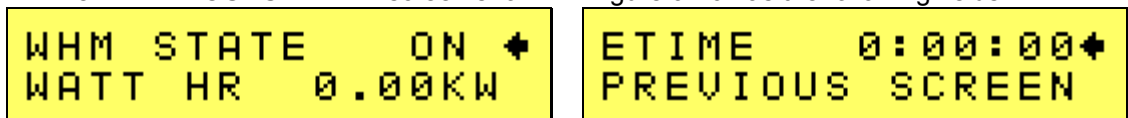

Figure 9-20: Watt-Hour Meter Screen
- The WATT-HOURS METER screen shown in Figure 9-20 has the following fields:
- WHM STATE: This field will activate the watt-hour measurements. Moving the shuttle clockwise when the field is highlighted will activate the watt-hour function and the field will change to ON as shown in Figure 9-20.